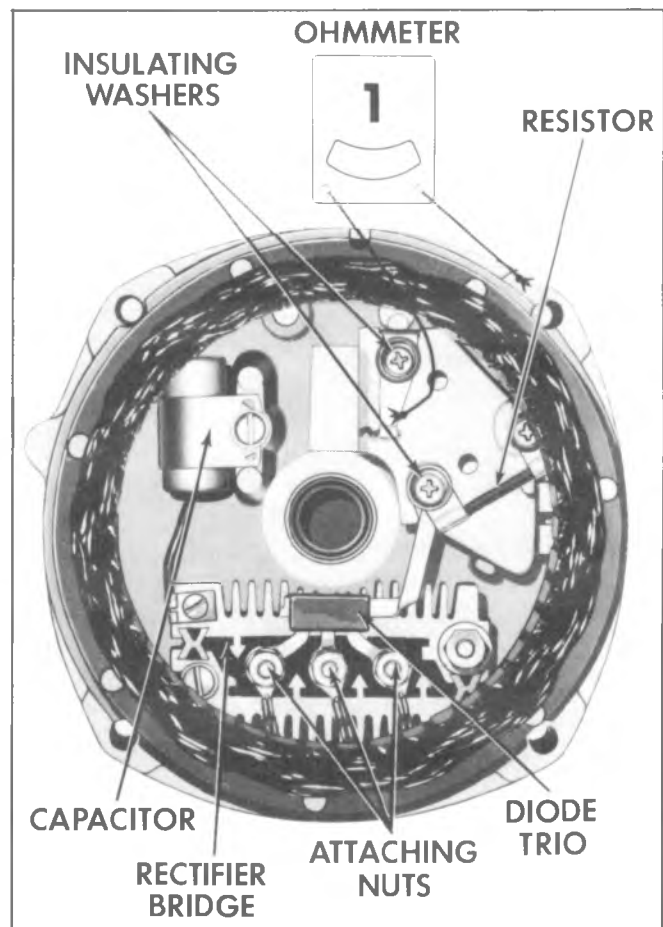

Fig. 6D-5C--Slip Ring End Frame
1. Make connections as shown in Figure 6D-6C, except leave the carbon pile disconnected. Use a fully charged battery and a 10 ohm resistor rated at six watts or more between the generator No. 1 terminal and the battery.